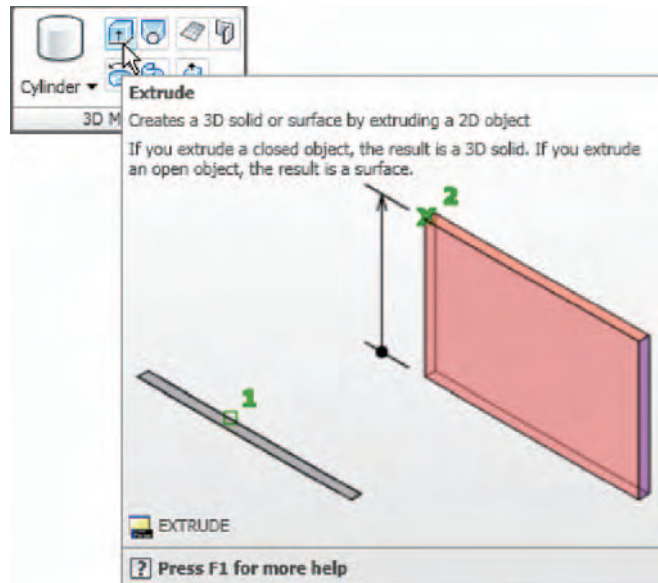

Fig. 12.14 The **Extrude** tool from the **Home/3D Modeling** panel
The **Extrude** tool can be called with a *click* on its tool icon in the **Home/3D Modeling** panel (Fig. 12.14), from the **Modeling** toolbar, from the **Draw** drop-down menu, or by *entering extrude* or its abbreviation **ext** at the command line.
1. Call the **Extrude** tool (Fig. 12.14). The command line shows: